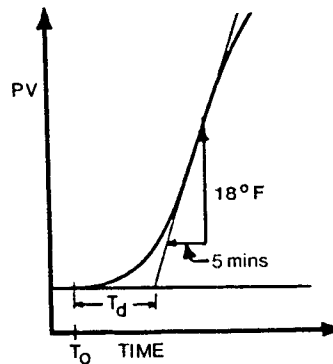

Figure 4-11. System Time Delay
3. Draw a line from the point of maximum slope back to the ambient temperature axis to obtain the lumped system time delay T_d (see Figure 4-11). The time delay may also be obtained by the equation:
The chart recording in Figure 4-11 was obtained by applying full power to an oven. The chart scales are $10^{\circ}\text{F}/\text{cm}$, and $5 \text{ min}/\text{cm}$. The controller range is $100 - 600^{\circ}\text{F}$, or a span of 500°F .